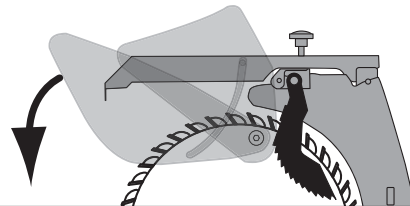

Figure 59. Typical ripping operation.
10. Use a push stick to feed the workpiece through the saw blade, as shown in **Figure 59**, until the workpiece is completely beyond the saw blade.